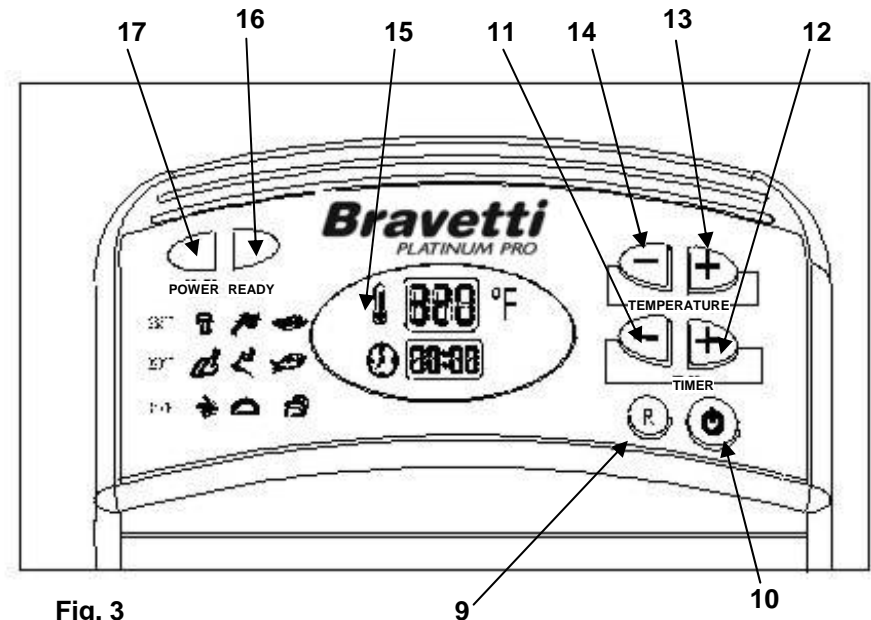

Fig. 3
- Set the required temperature – The temperature is adjustable from 155 °F to 385 °F in 5°F increments. If you want to elevate the temperature, press the button. When you press the button the unit will beep. If you want to lower the temperature, press the button. When you press the button the unit will beep and the upper screen will display the temperature that you set. When the setting temperature is reached, the green ready indicator light come on. Fig. 3